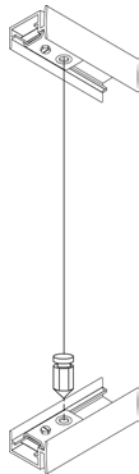

Figure 4
- A. Use your Plumb Bob and line to adjust the Pivot Block Clamp (#8). This will ensure that your doors work properly (See Figure 4).